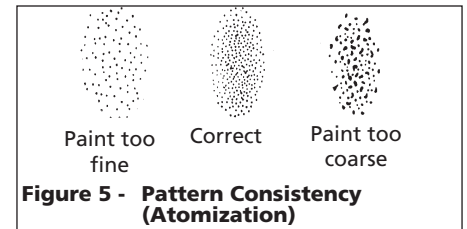

Figure 5 - Pattern Consistency (Atomization)
4. Trigger a short burst while turning fluid control knob counterclockwise. Observe the spray pattern on the target and adjust the fluid control knob until the desired pattern (atomization) is obtained (See Figure 5).